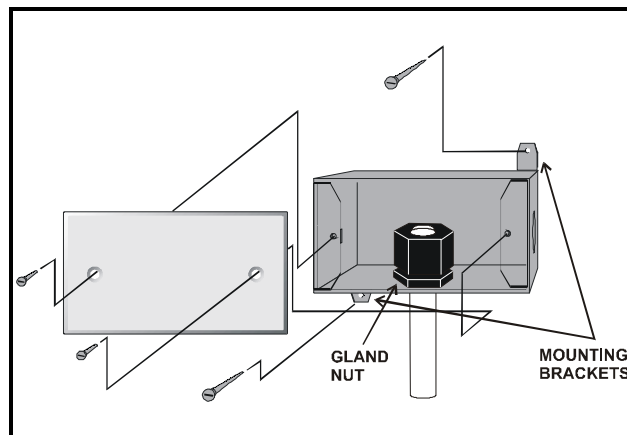

Figure 3-24 - Outdoor RH Sensor - Exploded View
- Secure the rear side of the enclosure to the outside wall using the two mounting brackets, as shown in **Figure 3-24**. The tube holding the sensor element should point straight down.